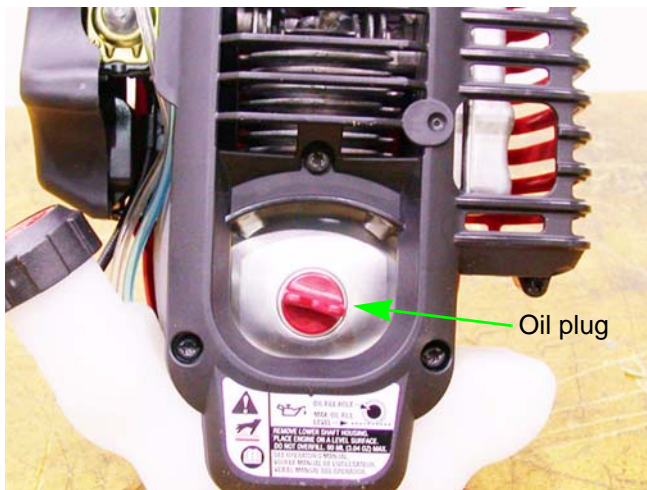

Figure 2.1
3. Unscrew the oil plug. See Figure 2.1.